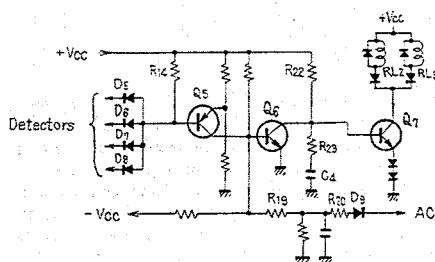

Fig. 3 Relay driver circuit
1. Relay Driver Circuit (Fig. 3)